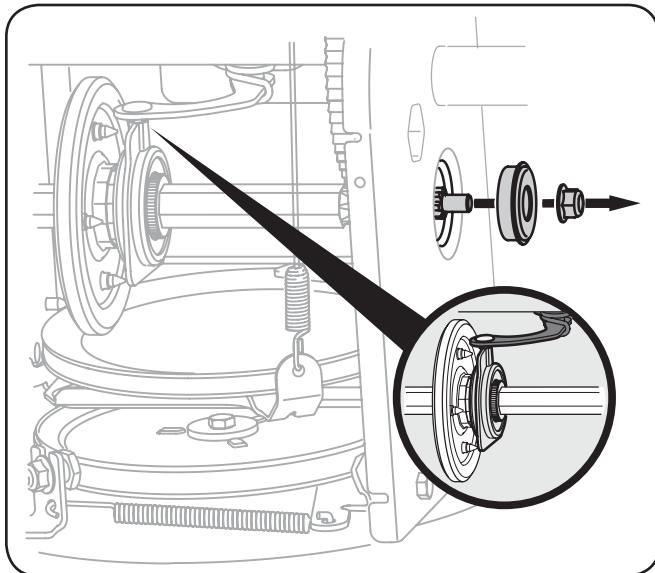

Figure 7-9
5. Carefully remove the hex nut which secures the hex shaft to the snow thrower frame and lightly tap the shaft's end to dislodge the ball bearing from the right side of the frame. See Fig. 7-9.
NOTE: Make sure the shift lever pin is in place in the bearing housing. See Fig. 7-9 inset.